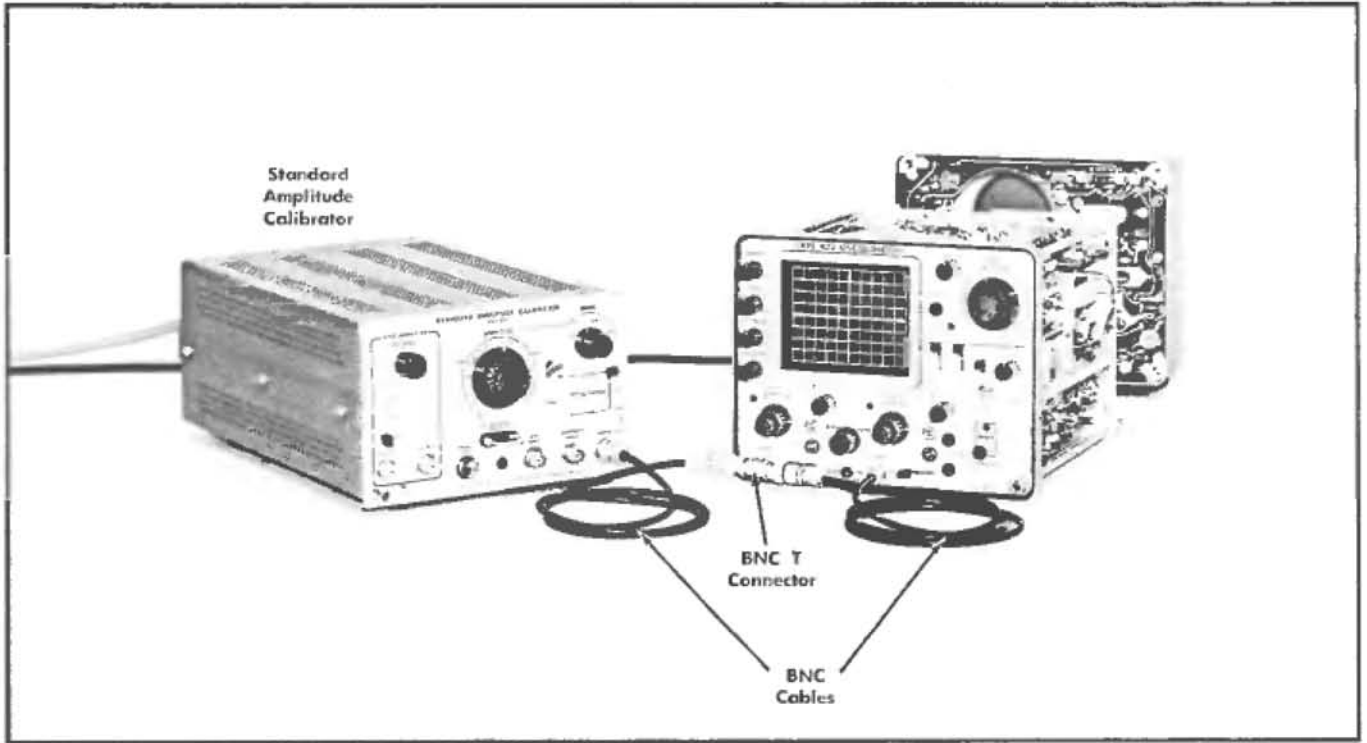

Fig. 6-17. Initial test equipment setup for steps 12—19.
- a. Test equipment setup is shown in Fig. 6-17.